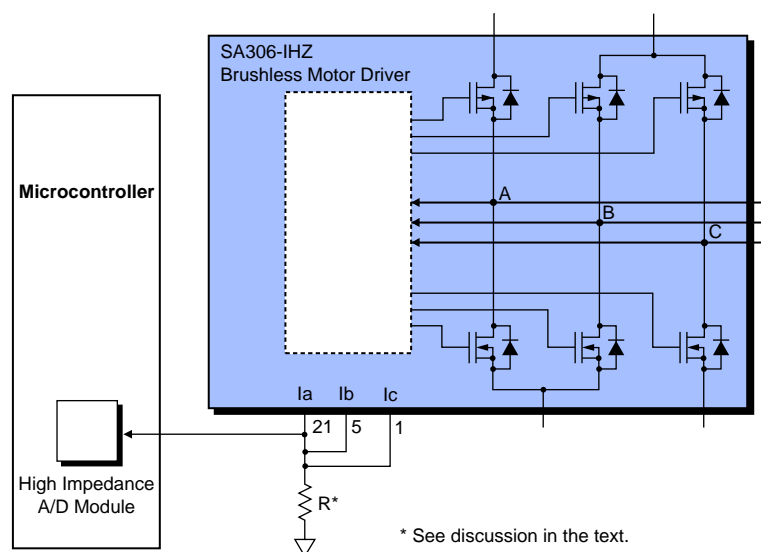

Figure 7. Current Monitoring Circuit
External power shunt resistors are not required with the SA306-IHZ. Forward current in each top, P-channel output FET is measured and mirrored to the respective current sense output pin, Ia, Ib and Ic, as depicted in Figures 1 and 5. By connecting a resistor between each current sense pin and a reference, such as ground, a voltage develops across the resistor that is proportional to the output current for that phase. As an alternative the currents Ia, Ib, and Ic can be fed to a single resistor and the voltage developed monitored by a high-impedance A/D converter, as shown in Figure 7.
**Table 2. Parts List for Figure 7**